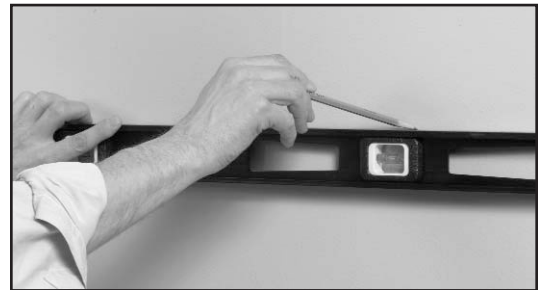

Fig. 18 – Use a level to establish vertical and horizontal lines.
- Place the level over the center point and mark the wall with a pencil continuing the entire length of the wall (Fig. 18).